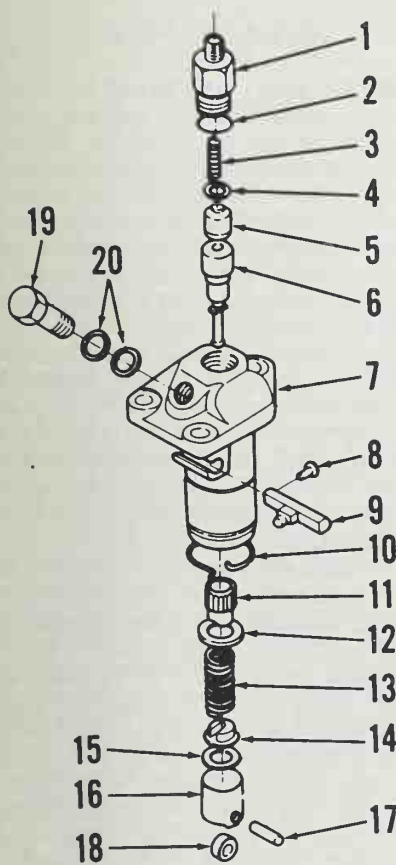

Fig. K1-4—Exploded view of injection pump.
INJECTION PUMP TIMING. Injection pump timing is adjusted using shims (5—Fig. K1-3). To check injection pump timing proceed as follows: Disconnect high pressure line from injection pump then unscrew delivery valve holder (1—Fig. K1-4) and remove valve spring (3) and delivery valve assembly (5). Reinstall delivery valve holder (1) and connect a suitable spill pipe to valve holder. Aim spill pipe at a receptacle to catch discharged fuel. Move throttle